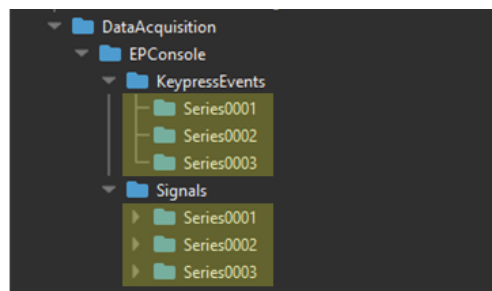
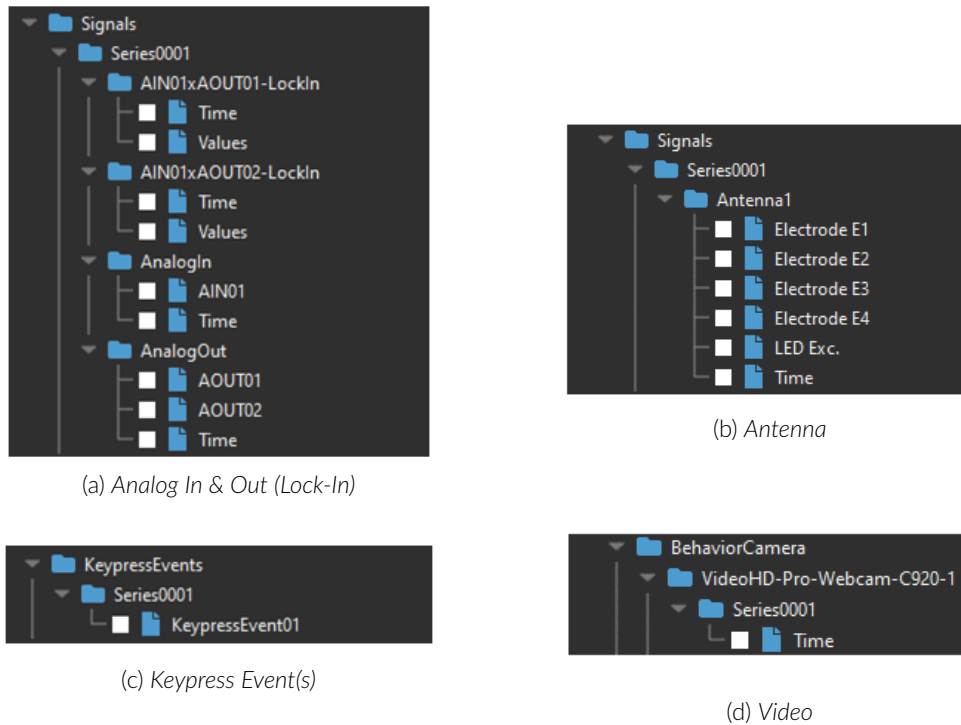

Figure 4.39: Time Series structure
Figure 4.40: Data Acquisition, Dataset structure
3. The **Series 0001** folder (Fig. 4.37, 3) is contained within a **Data Type** folder. By default, even if **Time Series** is not enabled, the entire recording is stored within **Series 0001** (of one). When **Time Series** is enabled, multiple **Series #** folders will be created one after another, for each **Data Type** and **Device** folders (Fig. 4.39). The structure within each repeated **Series** will be identical (i.e. Series0001, 0002, 0003...) when inside the same **Data Type** folder, but not between them. E.g. *Keypress Event* series and *Signal* series structure will be different (Fig. 4.40).
- The **Dataset** branches (Fig. 4.37, 5) are identified by their document button and contain the raw data. Every **Channel / Sensor** folder will at least have a *Signal / Value Dataset* (Fig. 4.40) and often a *Time Dataset* too (Figs. 4.40a, 4.40b & 4.40d, but not 4.40c). The **Dataset** names are commonly the name of the channel/sensor itself + an index value (if there are multiple channels), such as Fig. 4.40b. However, if the user specified a name for the **Channel / Sensor** within the software, that name is used instead. The raw data is stored within the **General Info** tab, under the **Dataset** box (Section 4.5.1), while the attributes related to the **Datasets** are located within the **Attributes** tab (Section 4.5.3).